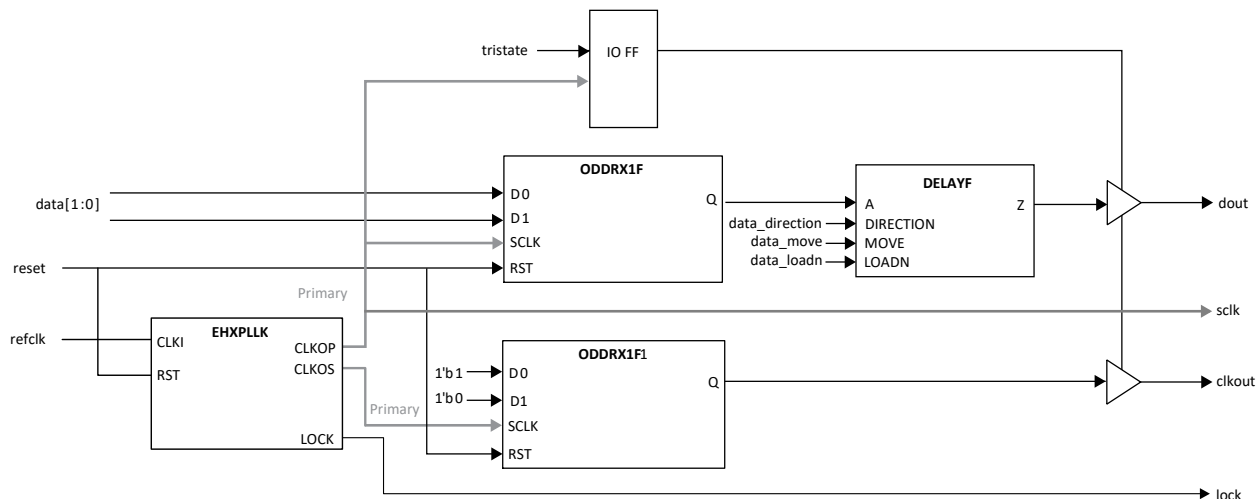

Figure 5.21. GDDR1_TX.SCLK.Centered Interface (with Registered Tristate and Optional Dynamic Delay)
- The DELAYG or DELAYF element to delay the output data before sending out to the IO pad. DELAYG is used with a static delay, DELAYF is used with dynamic delay. This is not shown in the following diagrams but the implementation is similar to Figure 5.21.